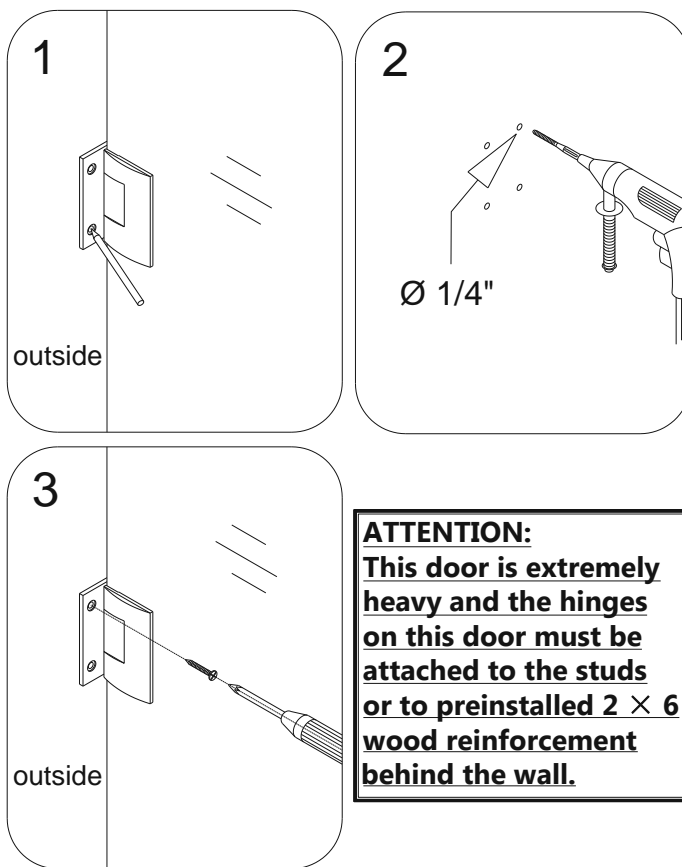
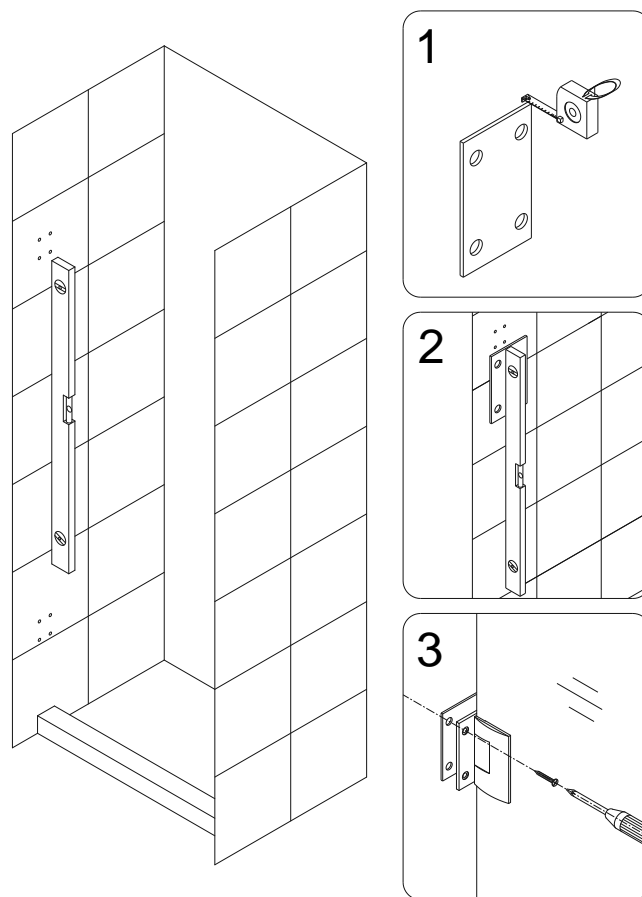

Fig. 3
Fig. 4
3. Hold the door in place and mark the drill holes for both **Hinges (05)** on the wall. Set the door aside and use a  $\varnothing$  1/4" drill bit to drill holes up to the stud. Drill 1/8" pilot holes into the stud if necessary.
**The included PVC hinge spacers (31) are provided to compensate for minor out-of-plumb wall conditions. Use only as necessary as their use could compromise the opening size of your shower. Please see Fig 4 for an installation example\*.**
4. Place the **Door Glass (01)** back onto the threshold along with the 5/8" spacers and attach both hinges to the wall with two **Countersunk screws ST5x70 (04)** on the hinge from outside of the shower. Then open the door and install the remaining screws to both wall plates from the inside.
**(Fig 3 and Fig 4)**